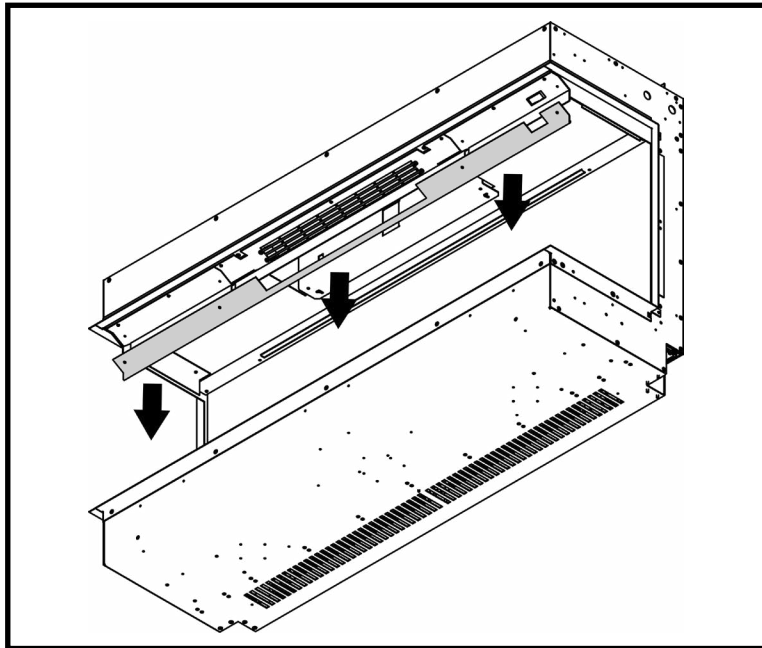

Fig 1.
1. Unscrew and remove the top glass retainer panel. Be sure to support the retainer panel once it has been unscrewed to ensure it doesn't fall and scratch the fire housing (Fig 1).